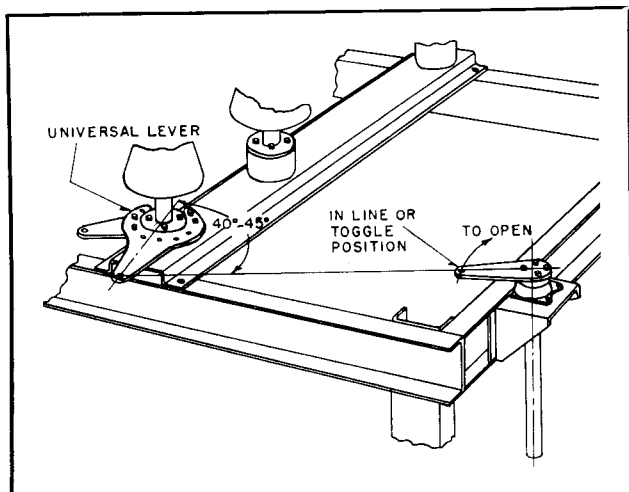

Fig. 5. Outboard Bearing Lever in Toggle Position
(C) When mounting the universal lever it should be set at an angle of approximately 40° to 45° to the outboard pipe when it is in toggle position as shown in Fig. 5. The holes in the universal lever
(E) Close the driven pole unit until the blade tip is turned over approximately flat in the break jaw. Set the lever on the outboard bearing so that it points directly at the hole in the driven pole unit lever. With both levers in this position, install the rod ends and the connecting pipe. Refer to Fig. 5 for the correct installation of this pipe. Tighten the clamping bolts securely but do not tighten the set screws at this time.
(G) The driven pole unit can now be operated with the handle at ground level. Set the "Stop" bolts on the handle for the open and closed positions. The closed position "Stop" should be set with the outboard bearing lever in a "Toggle", position as shown in Fig. 5. Set the open position "Stop" when the switch blade is fully open against the blade stop.